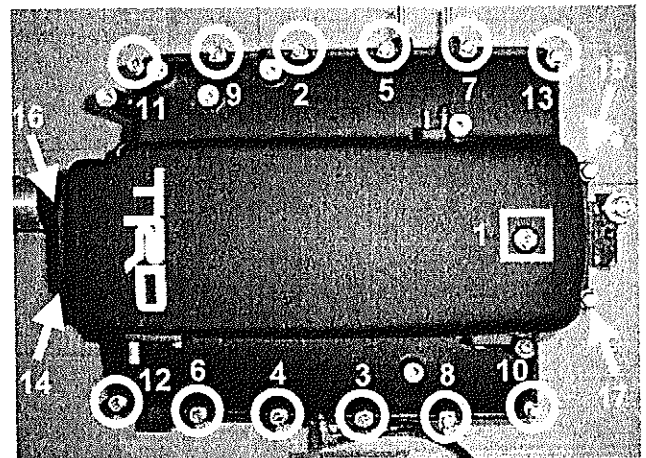

Figure 17
2. Alternate between the right and left sides and work from the center outward to uniformly loosen and remove plenum cover bolts. Follow the pattern below and in Figure 17:
15. Replace the plenum cover bolts, but do not tighten them yet. Refer to the pattern in Figure 17 to uniformly and gradually tighten them. Torque the bolts to 16-18 ft.-lbs.